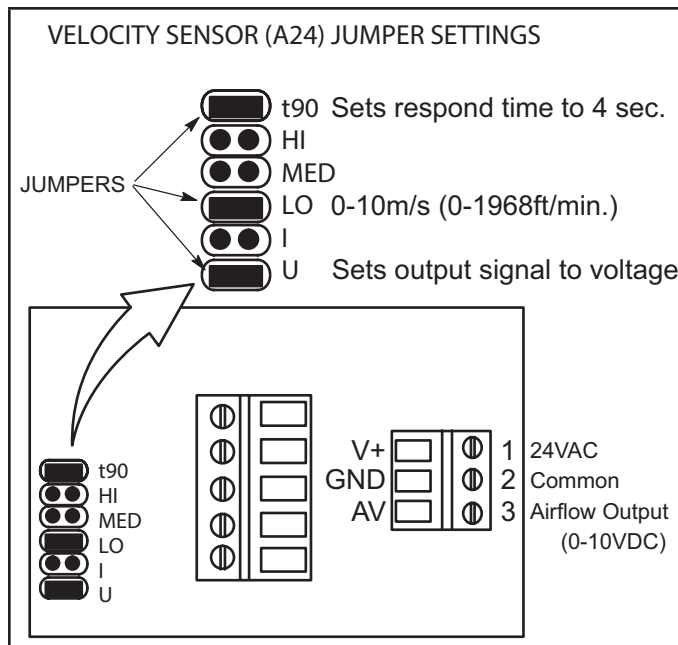

FIGURE 43
NOTE - The configuration ID setting (H) must be paired with the "low" jumper position on the A24 control (see FIGURE 43). The jumper is factory-set at low range (0 - 1968-ft/min).